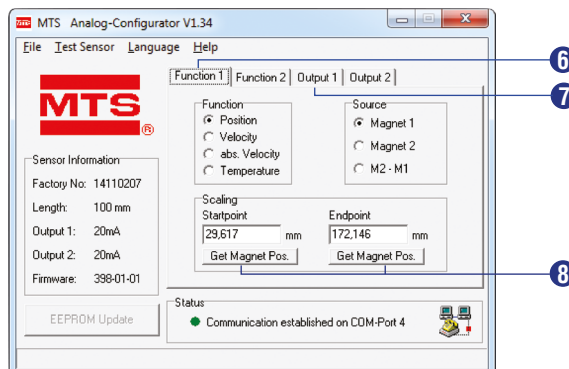

Fig. 42: Example of tab controls
- 6 Via tab **Function 1** you can determine the type of measurement and the **Source**. In Fig. 42 position measurement with **Magnet 1** is selected. Under **Scaling** you can specify the **Startpoint** and **Endpoint** of the position measurement.
- 10 Index cards **Function 2**, **Output 2** and the functional reference to the 2nd magnet in field **Source** (Fig. 42), are provided only for sensors with two analog outputs.